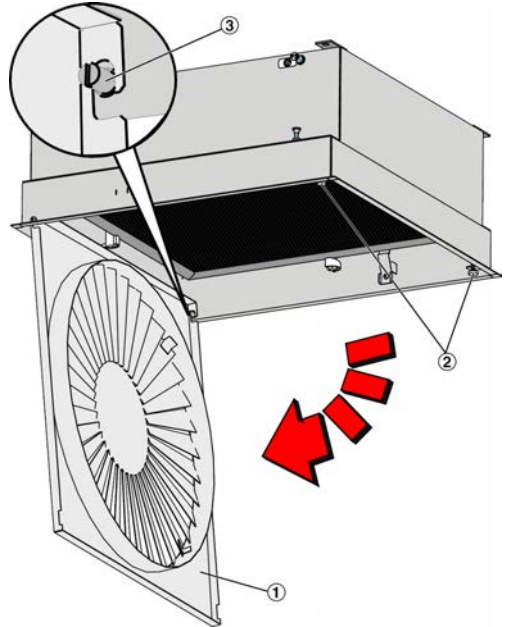

Fig. 6: Removing the diffuser face
1. ▶ Loosen the diffuser face (Fig. 6/1) from the magnets (Fig. 6/2) and swivel downwards. Press the diffuser face upwards slightly and lift away from the bolts (Fig. 6/3).